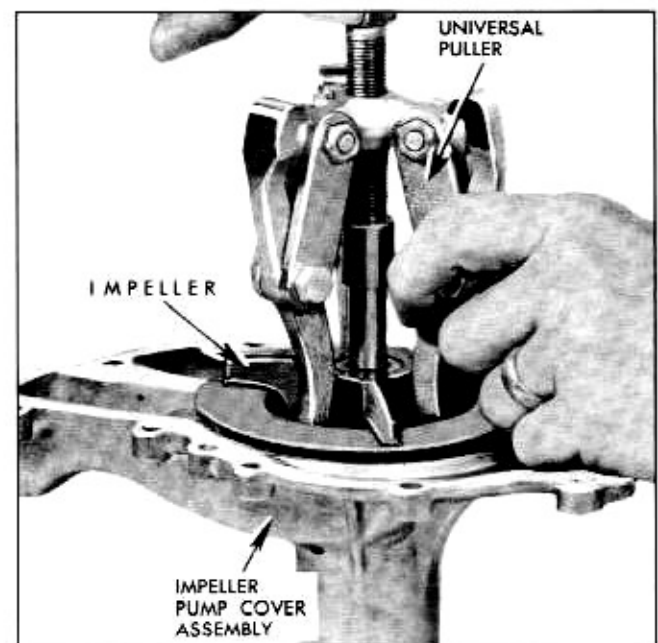

Fig. 6A-15 Pulling V-8 Water Pump Impeller
1. Pull impeller from pump shaft using care to avoid any end thrust on bearings (see Fig. 6A-15).